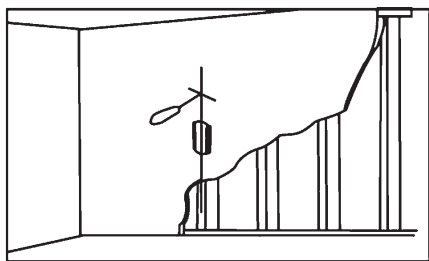

Fig. 3a
### Wood stud walls (Fig 3a)
1. Use a pencil, awl, or a nail to mark the location of the wall stud centers (Fig 3a) after locating the stud with an electronic stud locator. The distance between marks should not be less than 16 inches (Studs must not be less than 16 inches (40.6 cm)).